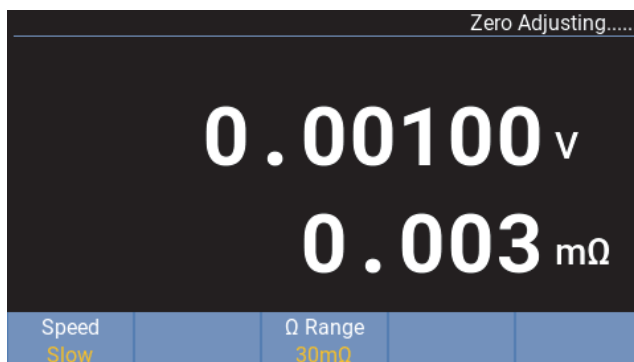

Figure 39. Zeroing process
3. In the measurement screen, if the measurement range is not in **Auto**, the following zeroing operation will zero a single range. Press **ZERO** on the front panel. The Instrument starts to execute zeroing, and “**Zero Adjusting...**” shows at the top right of the screen. As shown in Figure 39.